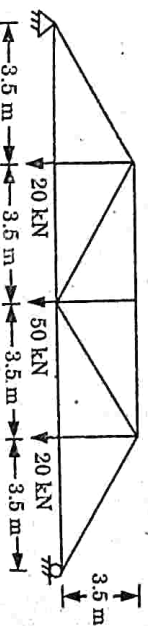

Fig. 2.
- f. Analyze the truss shown in Fig. 2.